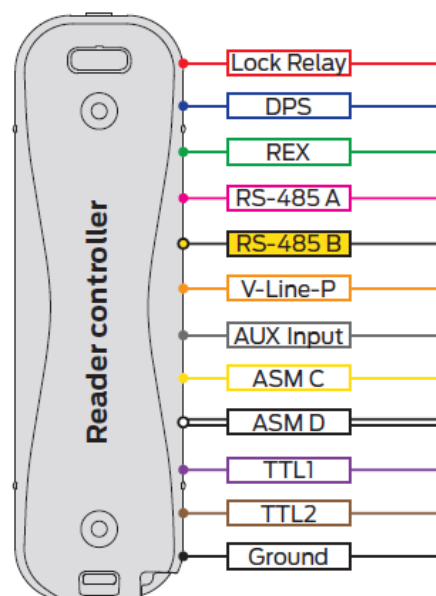

Figure 2.3: Reader controller field wiring color codes
- Field wiring consists of 12 wire leads (22AWG) which are used to connect to the various components at the door location. Most installations do not require the use of all the leads. The usage of each available lead is shown in Figure 2.3: Reader controller field wiring color codes.